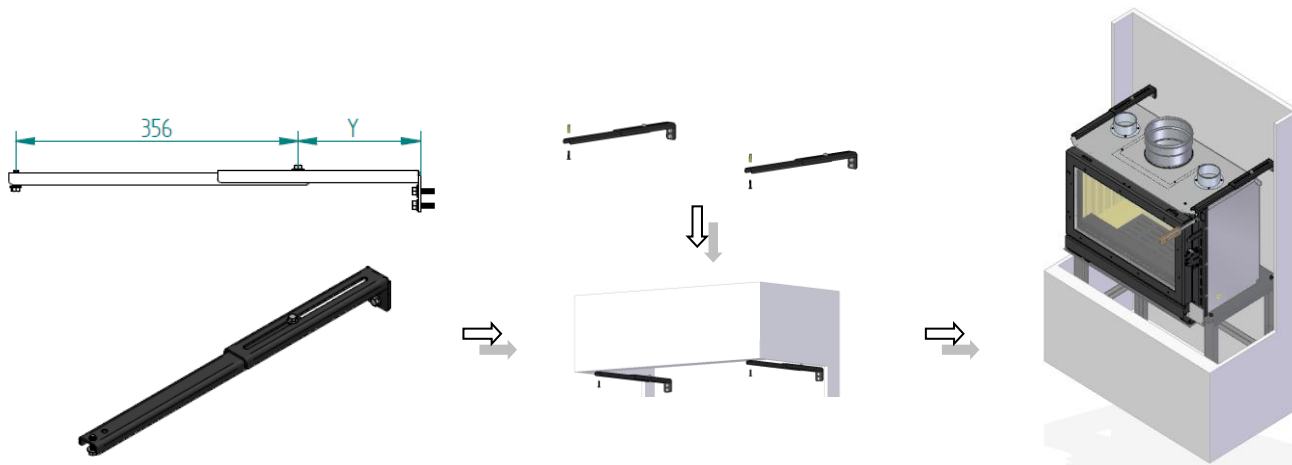

Figure 10 - Mounting the upper brackets - PA1090G053
8. To apply the upper supports, before attaching them to the wall, you should attach them outside according to the measure shown in Figure 10. The measure "Y" is the distance that the support will have to the wall fixing, this measure should be taken at the place to be installed in order to later tighten the fixing set.